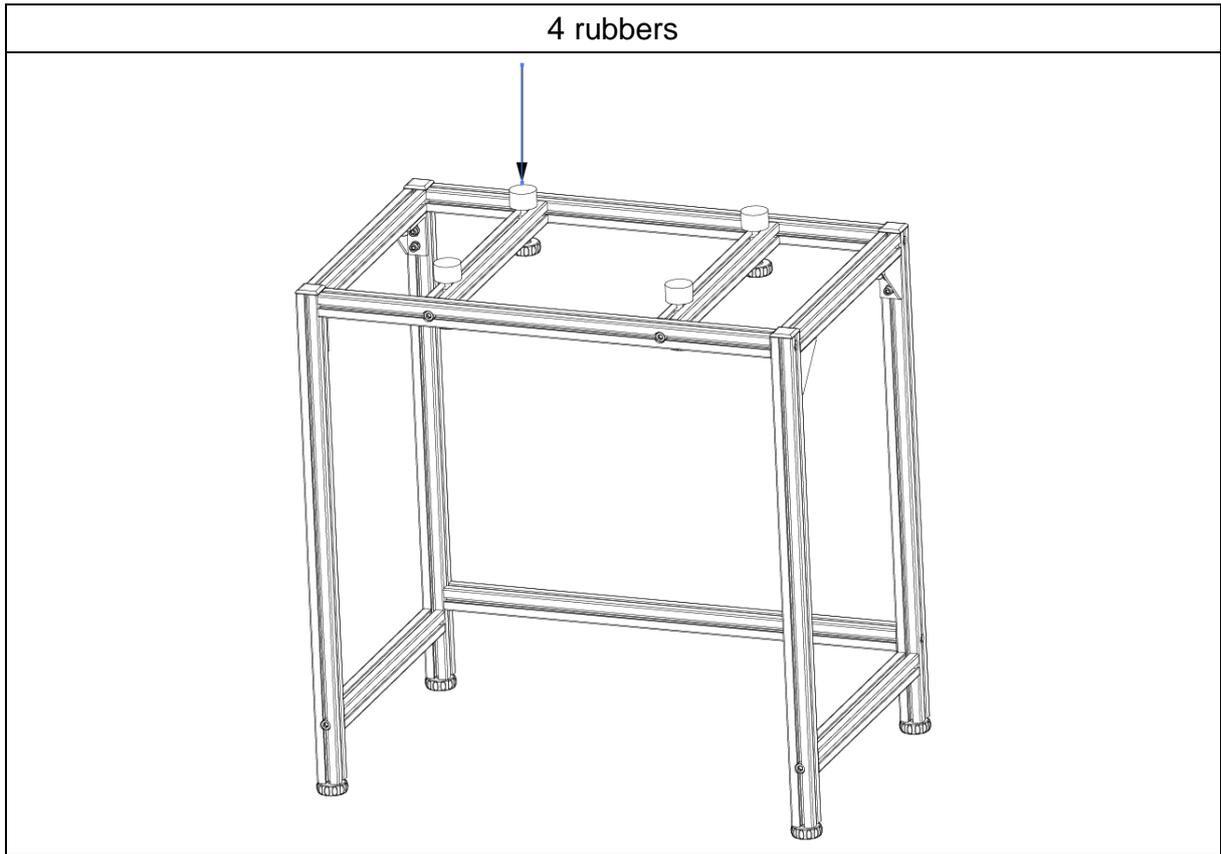

Figure 4
6. Fix the four rubber blocks as shown in fig. 4.